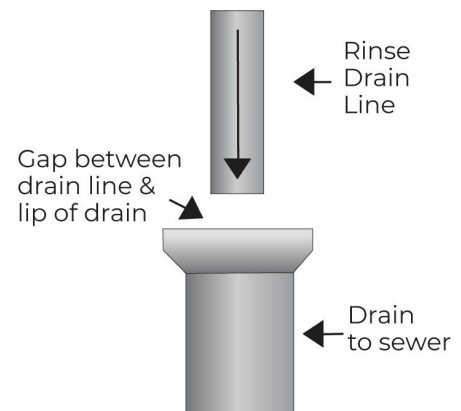

Figure 6 - Air Gap Illustration
6. An **AIR GAP** must be used in connecting to a drain line to prevent possible back siphoning into the tank [See Figure 6].